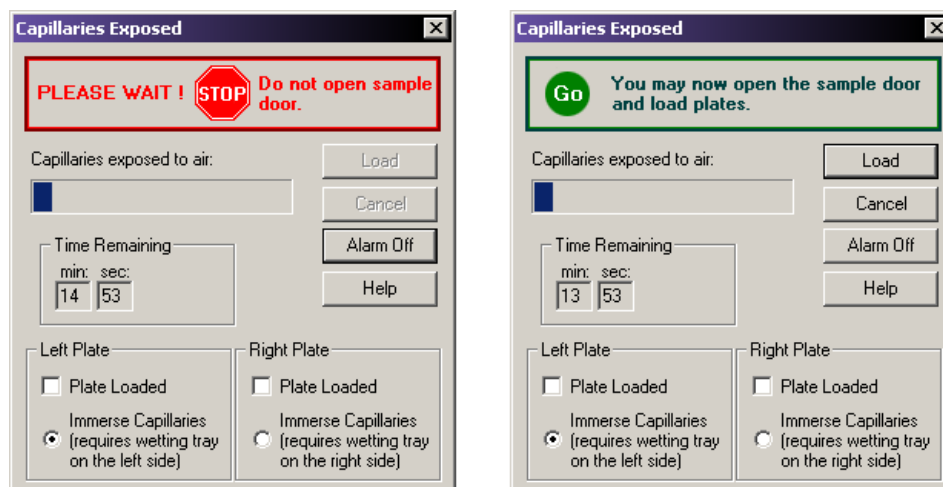

Figure 9.13 Capillaries Exposed Dialog Box
2. Click **Start**. The Capillaries Exposed dialog (Figure 9.13) opens.